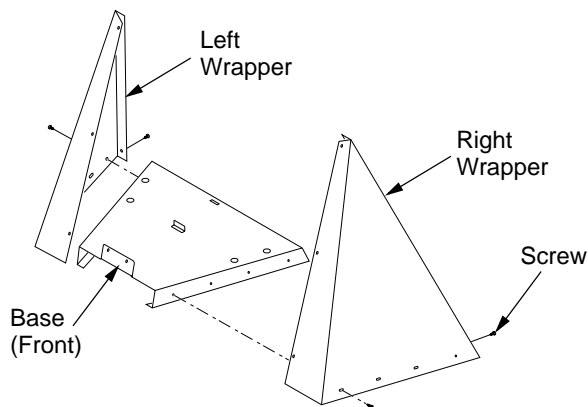

Figure 2 - Attaching Left and Right Wrappers to Base
2. Locate right wrapper and left wrapper. Place one side to base and secure using 5 screws provided. Repeat for other side (see Figure 2).